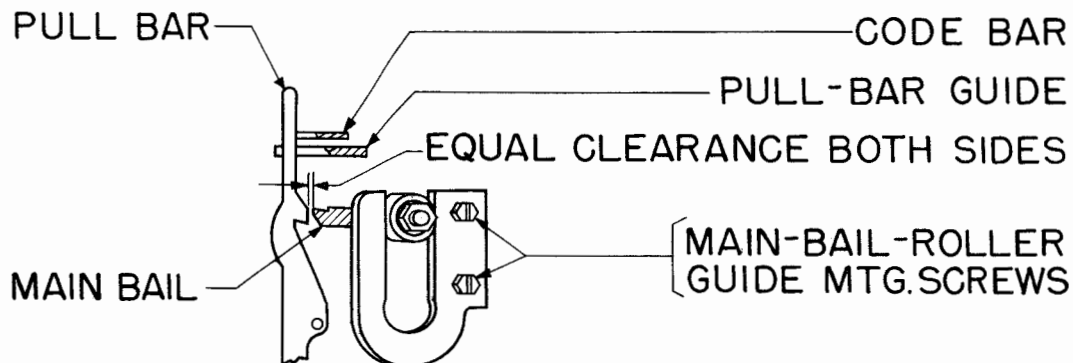

Figure 11
- (a) Pullbar-main Bail Clearance: With the Blank combination set up and the main bail opposite the unselected pullbar humps (Figure 11) the clearance between the LTRS pullbar and the main bail and the clearance between the FIGS pullbar and the main bail shall be approximately the same.